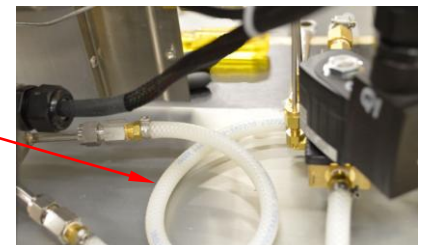

Figure 4
- f. Using two 9/16" wrenches reattach the water cooling tube to the back of the vessel. Be sure to coil the tube as shown in Figure 4.